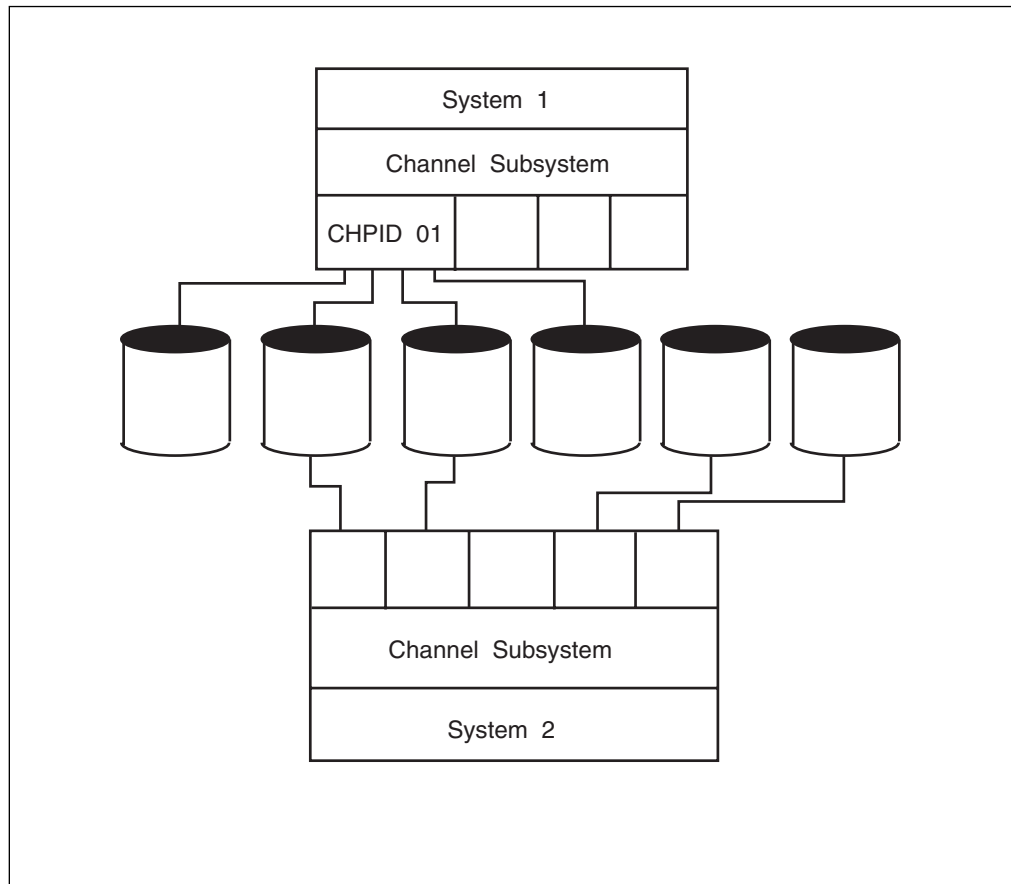

Figure 9-1. DASD Devices Shared Between Two Systems
- For a non-dynamic pathing device that does not support unconditional reserve, such as a 3330 Disk Storage, or for a reserved/assigned device with only one path, the system issues message IOS063E (or IOS062E) to request that the operator stop I/O to the shared devices (see Figure 9-1 on page 9-11 and the accompanying description). The system then tries to recover the channel path.
Figure 9-1 shows two DASD devices that are shared between two systems. When system 1 encounters a channel path error on channel path 01, indicated by message IOS063E (or IOS62E), the operator should stop I/O to the shared devices from system 2 to maintain data integrity during recovery of the channel path.